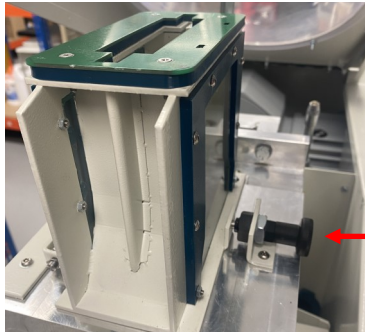

Figure 23
2. Lift the plastic dome cover and lock it in the up position by pulling the centre joint of the prop towards you, as shown in figure 23 in section 6.3.